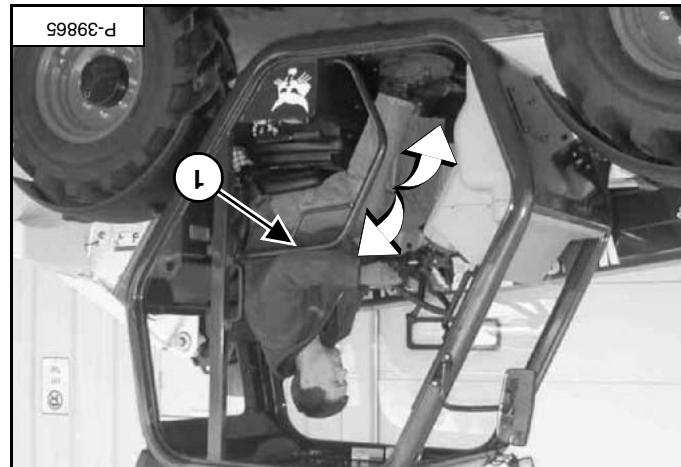

Figure 74
[Figure 74] (if equipped), and engage the parking brake. Fasten seat belt and lower the restraint bar (item 1).